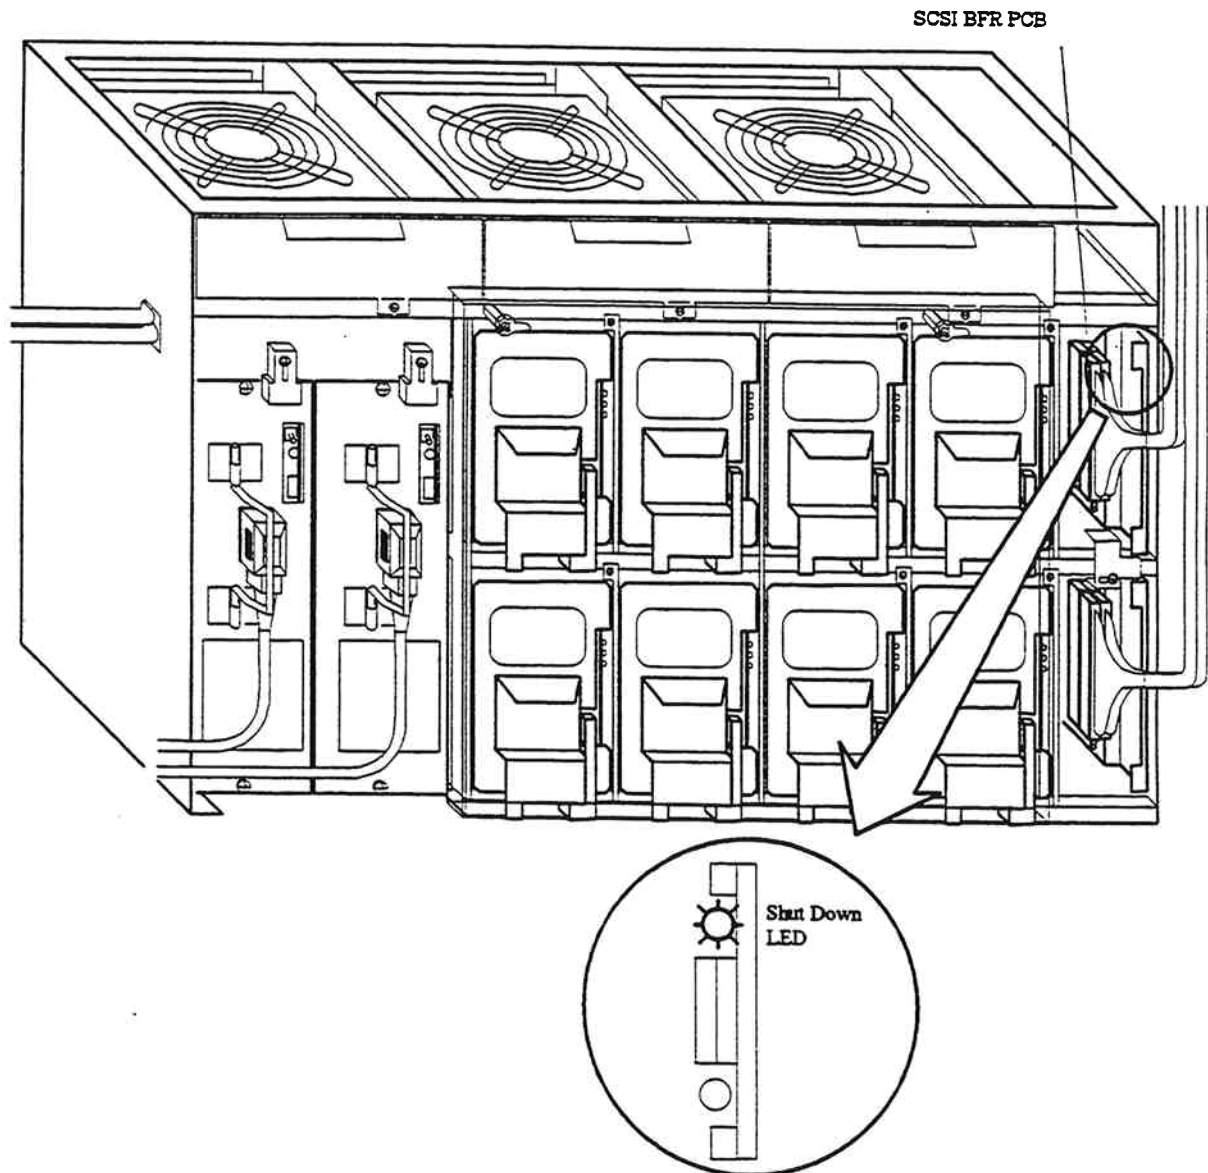

Fig. 3.4.3.2.3-1 Confirmation of the Shut Down LED Light
2. Disconnect the SCSI interface cables from the SCSI BFR PCBs in the first DKU chassis referring to figures 3.4.3.2.3-2 and 3.4.3.2.3-3.